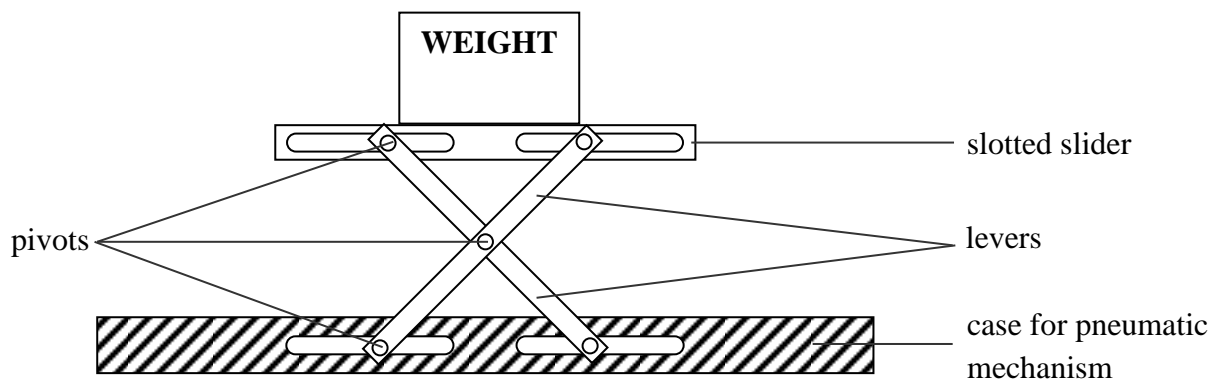

Figure 3: Pneumatic lift
Figure 3 shows a schematic diagram of a lift which works by using both a pneumatic system and levers.
- a) Give the name of the type of levers which are used for the lift shown in **Figure 3**.
b) Use arrows to label the direction of movement of the **INPUT** and **OUTPUT** of the lever mechanism in **Figure 3** when the lift is going up.